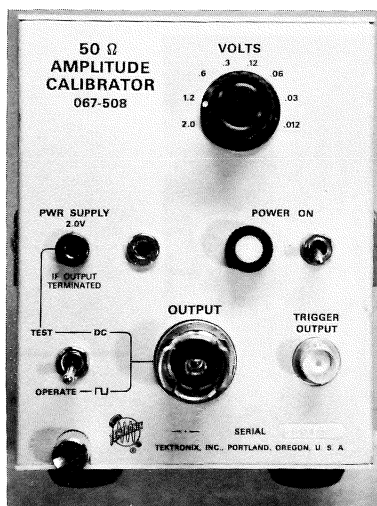

Figure 5-31
2. Set the TEST OPERATE switch on the AMPLITUDE CALIBRATOR to the OPERATE position. (See figure 5-31).